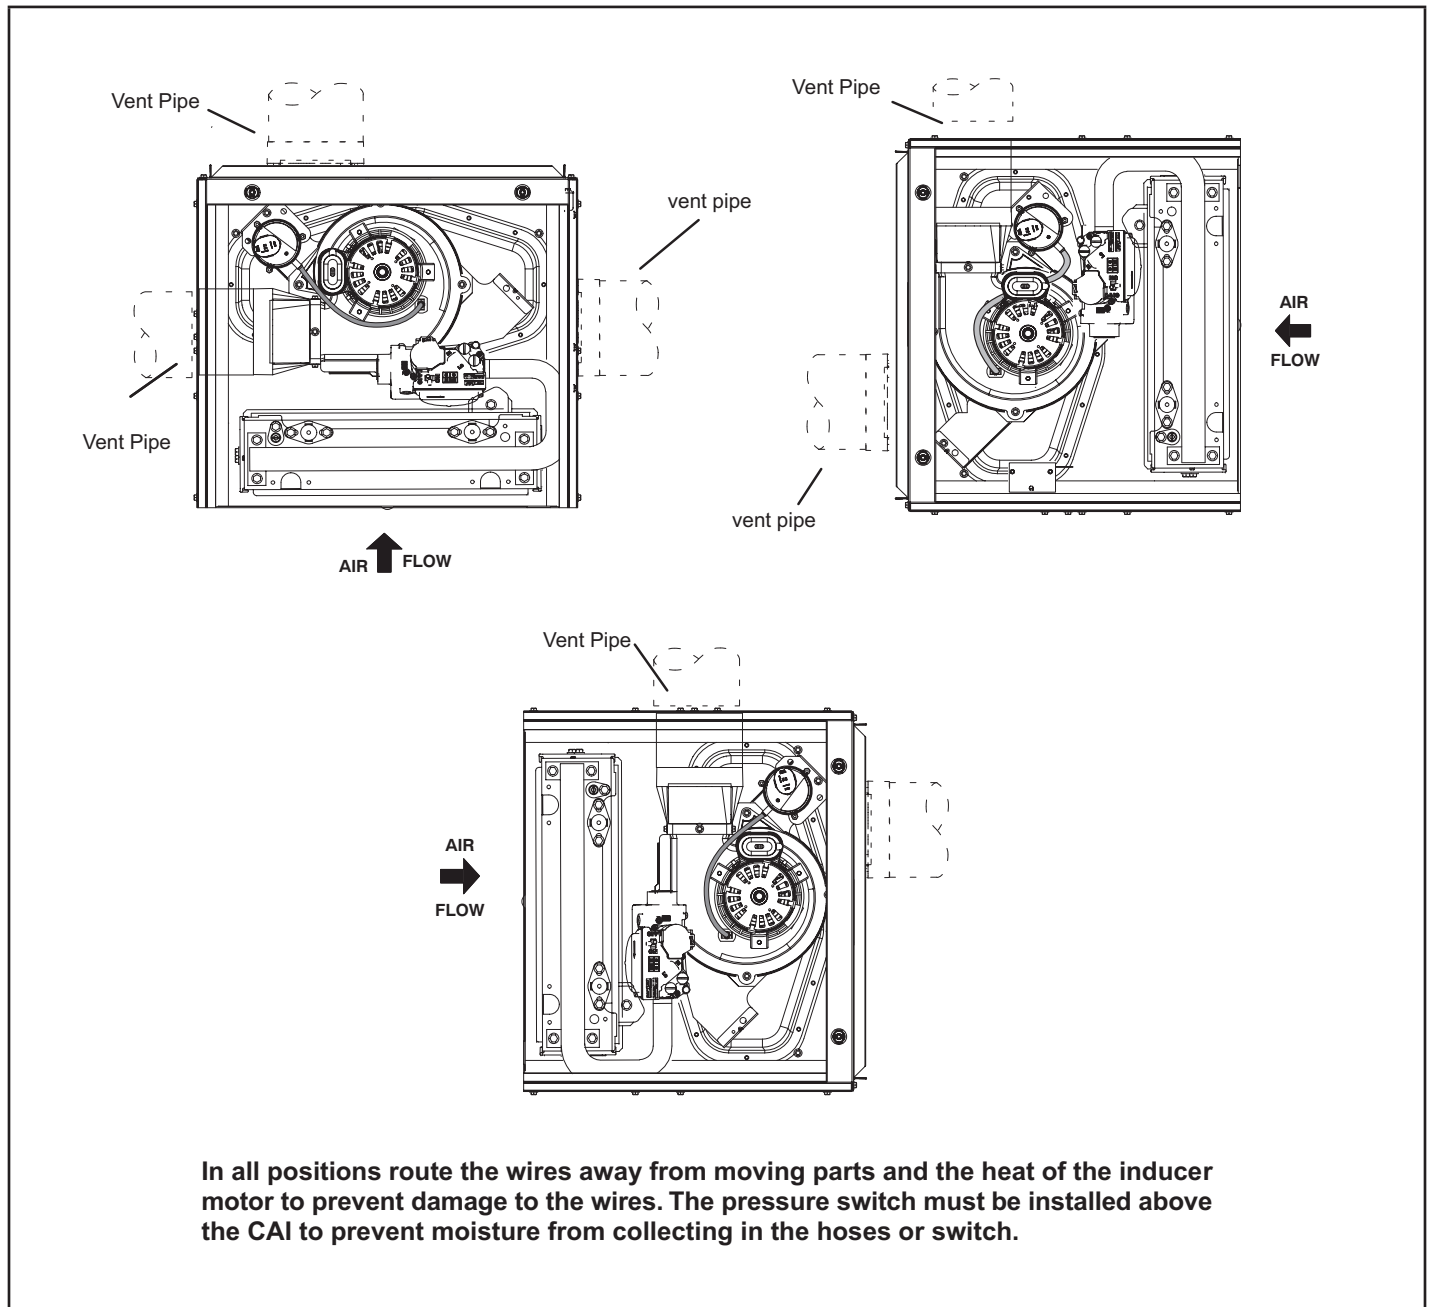

FIGURE 18
The EL280UHE(X) furnace can vent in multiple positions. See FIGURE 18.
- 4 - If necessary, make adjustments. Figure 18 show location of high fire and low fire adjustment screw.